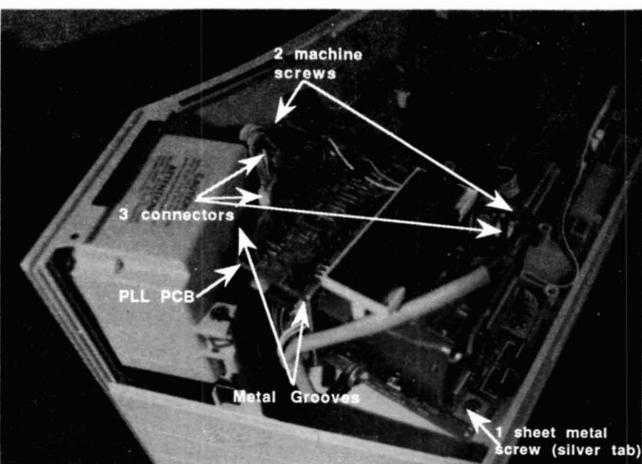

Figure 12
29. PLL PCB Removal (Figure12)
30. PLL PCB Replacement (Figure12)